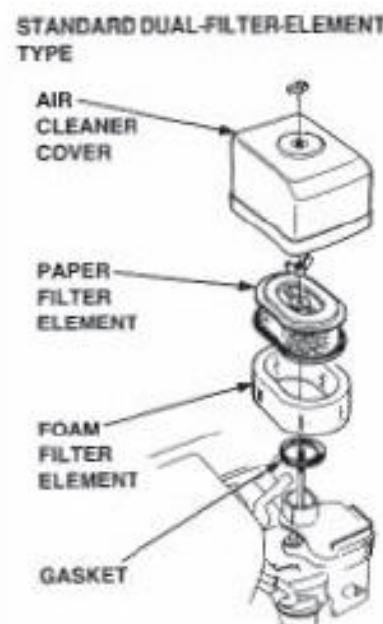

Figure 5-2
5.20 Dual-Filter-Element Types (Figure 5-2)